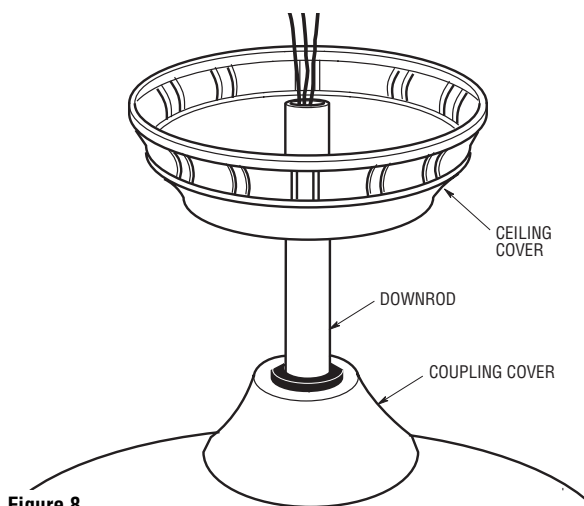

Figure 8
13. Separate, untwist and unkink the three 80" motor leads. Route the motor lead wires through the downrod. Remove the upper setscrew from the motor coupling. Align the clevis pin holes in the downrod with the holes in the motor coupling. Install the clevis pin and secure with the hairpin clip (Figure 8). The clevis pin must go through the holes in the motor coupling and the holes in the downrod. Be sure to push the straight leg of the hairpin clip through the hole near the end of the clevis pin until the curved portion of the hairpin clip snaps around the clevis pin. The hairpin clip must be properly installed to prevent the clevis pin from working loose. Pull on the downrod to make sure the clevis pin is properly installed. Reinstall the upper setscrew in the motor coupling. Check that the lower setscrew is tightened securely (Figure 8).